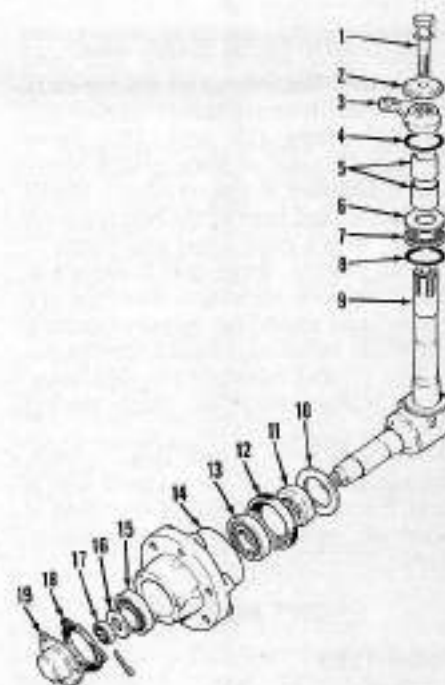

Fig. 1—Exploded view of typical front spindle assembly showing component parts and their relative positions.
1. A typical front wheel spindle, wheel hub and bearing assembly are shown in Fig. 1.
On 1190, 1290 and 1390 models inner wheel bearing (13-Fig. 1) and outer wheel bearing (15) are the same size. If bearings are to be reused, they should be installed in the same bearing cups from which they were removed. On 1490 and 1690 models, outer wheel bearing (15) is smaller than inner wheel bearing (13).
It is recommended that wheel bearings be lubricated using a pressure grease gun until grease is forced out past seal (12-Fig. 1) lip after every fifty hours of normal operation.
To adjust wheel bearings, tighten slotted nut (17-Fig. 1) to provide 0.080 mm (0.003 inch) end play to 0.051 mm (0.002 inch) preload and install cotter pin.
remove spindle (9-Fig. 1), support front of tractor and remove wheel from side to be serviced. Remove cap screw (1) and washer (2) which retains steering arm (3) and remove steering arm from spindle.
**NOTE:** If steering arm (3) is tight on spindle (9), reinstall cap screw (1) minus washer (2) and rap head of cap screw sharply to loosen steering arm. Care should be taken not to damage cap screw or threads in spindle.
Remove spindle and upper "O" ring (4-Fig. 1). Remove thrust washer (6) on all models and thrust bearing (7) on 1490 and 1690 models. On all models remove lower "O" ring (8).
Reinstall by reversing removal procedure, making certain thrust bearing (7-Fig. 1) and thrust washer (6) are in proper sequence on 1490 and 1690 models. On all models tighten steering arm retaining cap screws (1) to 163 N·m (120 ft.-lbs.) torque. Lubricate all parts during reassembly.
**3. SPINDLE BUSHINGS.** With spindle (9-Fig. 1) removed, upper (8-Fig. 2) and lower (10) spindle bushings can be removed from axle extension (9) using a suitable puller or drift punch. New bushings should be pressed into axle extension until flush with axle extension surface. Bushings are presized and should not require reaming if carefully installed. Upper (8) and lower